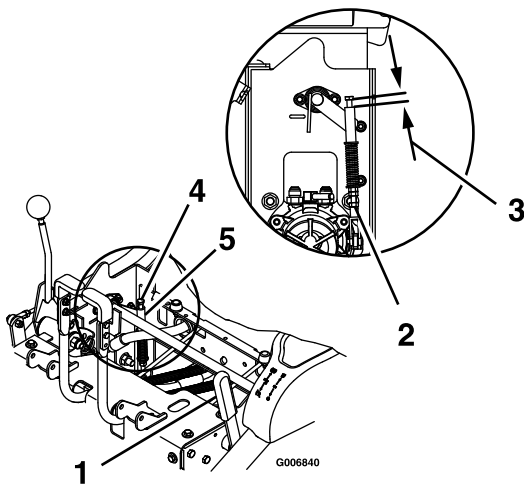

Figure 13
2. A gap must exist between the bottom of the brake bolt head and the top surface of the brake swivel as shown in Figure 13. If a gap does not exist, adjust the linkage to a maximum gap of 1/2 inch $\pm 1/8$ inch (1.3 cm ± 0.33 cm) as shown.